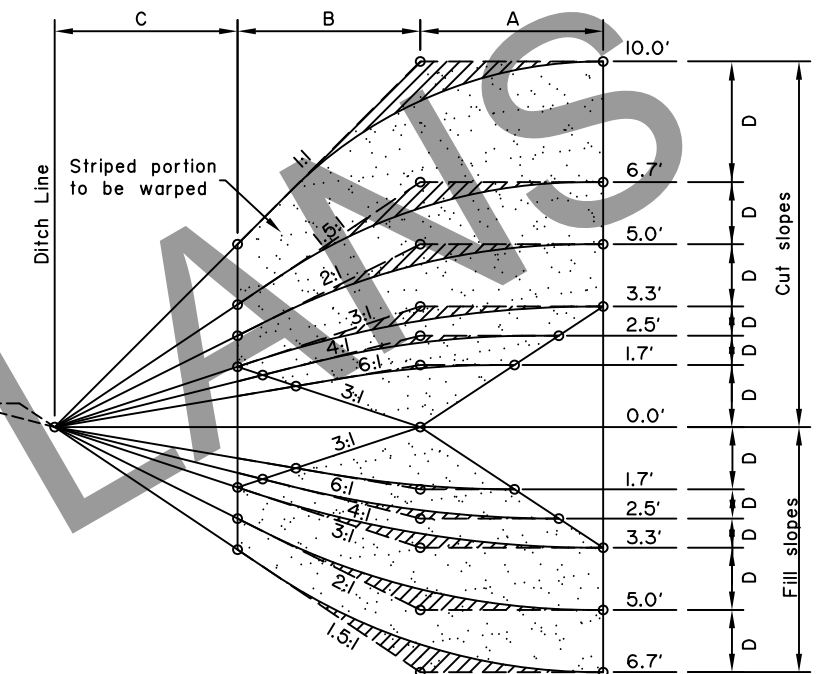

FIG. 4
- Intersections of cut and fill slopes shall be warped as shown in fig. 4 and 5 when required by the plans or special provisions.
- (b) When the average depth of cut or fill is such that the dimension B+C exceeds 10 feet, the ends of warping shall be at points where B+C is 10 feet, provided the warping distance E does not exceed 100 feet. That is, as shown in fig. 4 and 5, warping shall begin at a cut or fill depth of 6.7 feet for 1.5:1 slopes, at 50 feet for 2:1 slopes, etc. if the dimension E exceeds 100 feet, the dimension B+C shall be reduced until the intersections of the prescribed slopes with the natural ground are 100 feet apart.
- D--Flatten and round warped slopes as shown in figure 4 for each section.